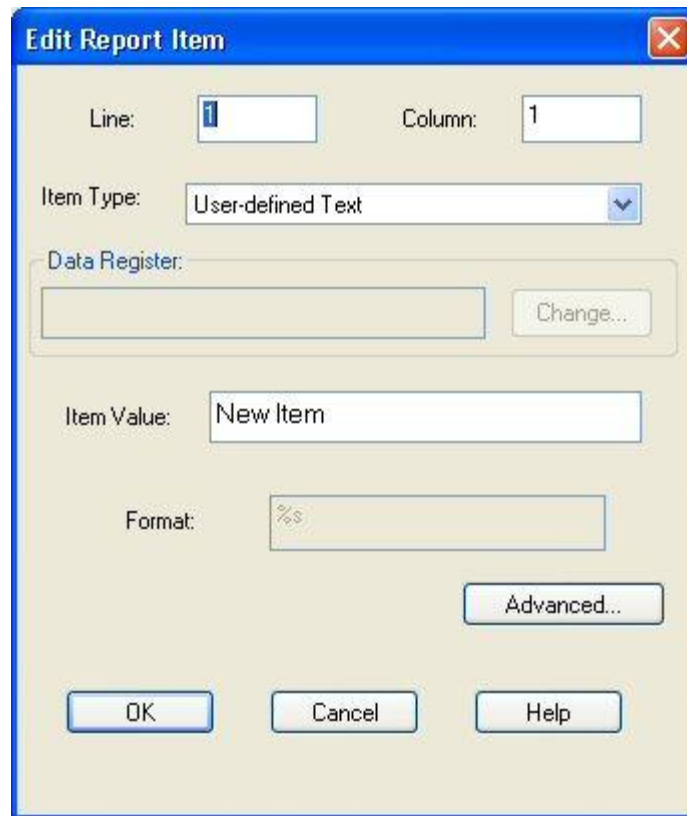

Figure 18. Insert/Edit Report Items
2. Next, select *Edit/Insert New Item...* from the microMate menu bar. An "Edit Report Item" dialog box will appear, similar to that shown in Figure 18.
4. Next, select "Item Type" from the pull-down menu shown in Figure 18. There are three options: "Run/Program Data Value," "Run/Program Data Description," and "User-defined Text." More about these options appears later in this subsection.
5. To display custom information such as a company name, select "User-defined Text," type the desired information in the "Item Value" box, and click "OK." The text will appear in the appropriate position on the report screen shown in Figure 18.
7. Note that the format of the new entry must be appropriate for its type. A sample report appears in Figure 18. A corresponding table immediately following the figure details the item, entry type, register, format string, position, and location for each element on the report.
To access the Report Editor's advanced features, choose *Edit | Insert New Item...* from the microMate toolbar. A dialog box, similar to that shown in Figure 18, will appear. Use the mouse to click on the "Advanced" button in the lower right-hand corner of the screen to obtain the dialog box shown in Figure 20.